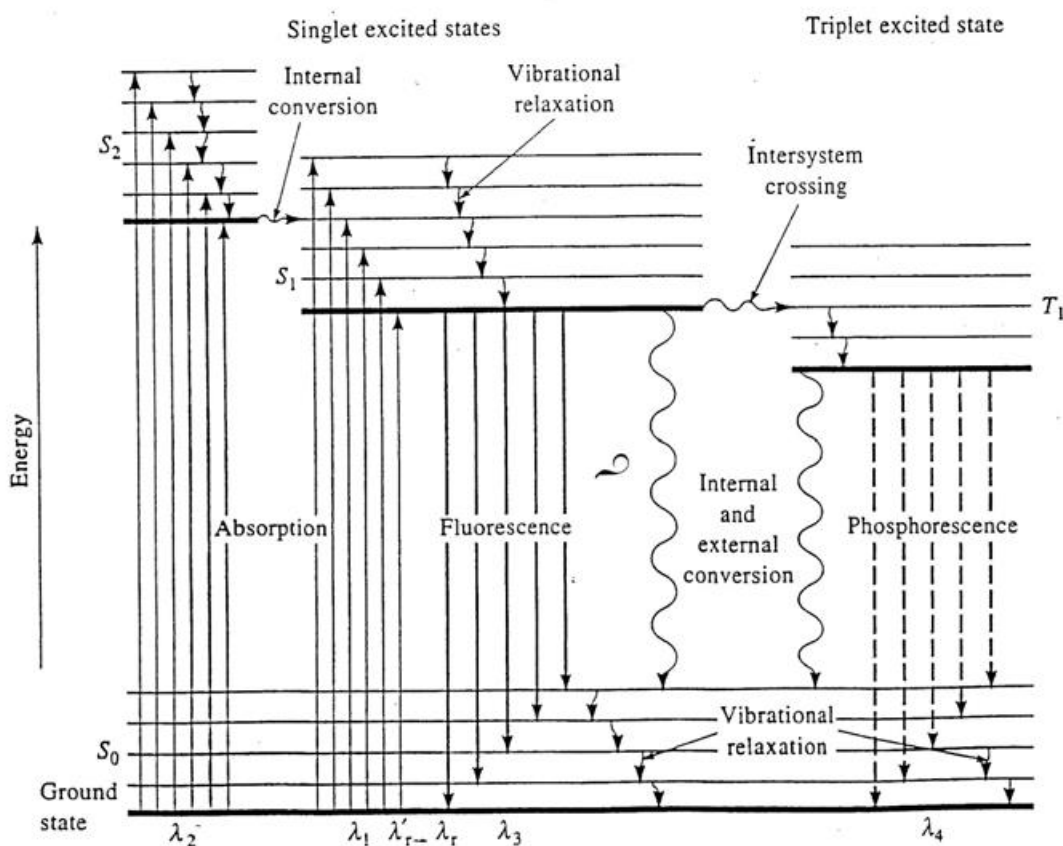

Figure 1: Electronic transition energy level diagram.
Fluorescence is a spectrochemical method of analysis where the molecules of the analyte are excited by irradiation at a certain wavelength and emit radiation of a different wavelength. The emission spectrum provides information for both qualitative and quantitative analysis. As shown in Figure 1, when light of an appropriate wavelength is absorbed by a molecule (i.e., excitation), the electronic state of the molecule changes from the ground state to one of many vibrational levels in one of the excited electronic states. The excited electronic state is usually the first excited singlet state, S_1 (Figure 1). Once the molecule is in this excited state, relaxation can occur via several processes. Fluorescence is one of these processes and results in the emission of light (Refer to Figure 1 during the following discussion).
2. Intersystem Crossing (10^{-9} s): In this process, if the energy states of the singlet state overlaps those of the triplet state, as illustrated in Figure 1, vibrational coupling can occur between the two states. Molecules in the single excited state can cross over to the triplet excited state.